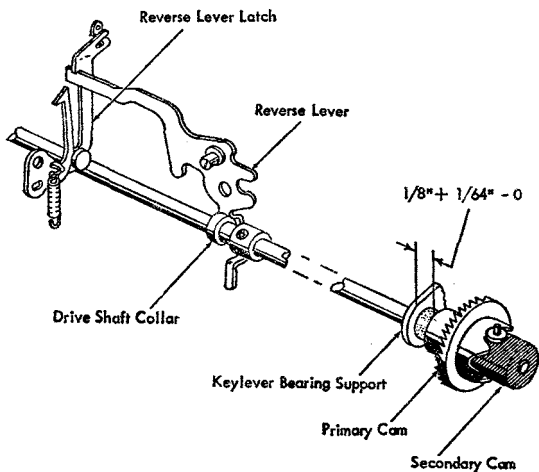

Figure 42. Drive Shaft Collar Adjustment
12. DRIVE SHAFT COLLAR. With the reverse-lever latched move the drive shaft to the right until there is a clearance of $\frac{1}{8}'' + \frac{1}{64}'' - 0$ between the key-lever bearing support and the primary cam (Figure 42). Move the drive-shaft collar to the right until the left flange of the collar contacts the reverse lever.